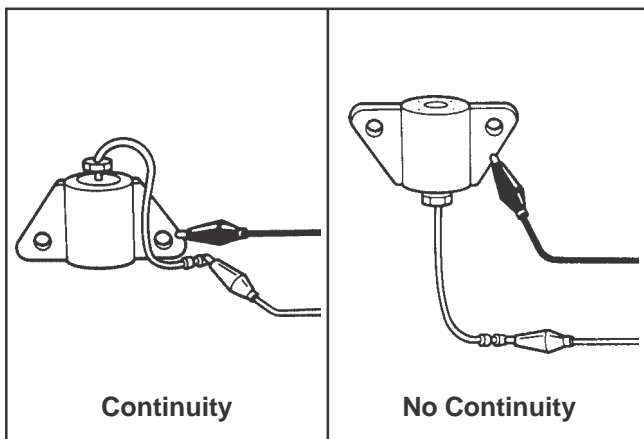

Figure 8-3.
5. Set an ohmmeter to the Rx1 scale and zero the meter. Connect one ohmmeter lead to the Oil Sentry™ float switch lead (black with gray sleeve) and touch the other lead to a bare spot on the crankcase (ground). Drain the oil from the crankcase and repeat the test. a. If continuity was indicated with and without oil above, check if the insulation has been scraped off the float switch lead. b. With the float switch removed, connect one ohmmeter lead to the float switch lead terminal and connect the other lead to mounting bracket. Test resistance with the switch in the normal position and inverted. Repeat test 2 or 3 times in each direction.	5. With the oil at the proper level, no continuity should have been indicated. After the oil was drained, continuity should have been indicated. If test results are other than specified, remove the closure plate from the engine and remove the float switch for further testing (5a and 5b). a. If the lead wire is bare, allowing it to short, repair with electrical tape or replace float switch. b. Switch continuity should be as indicated in Figure 8-3. If not, replace it.